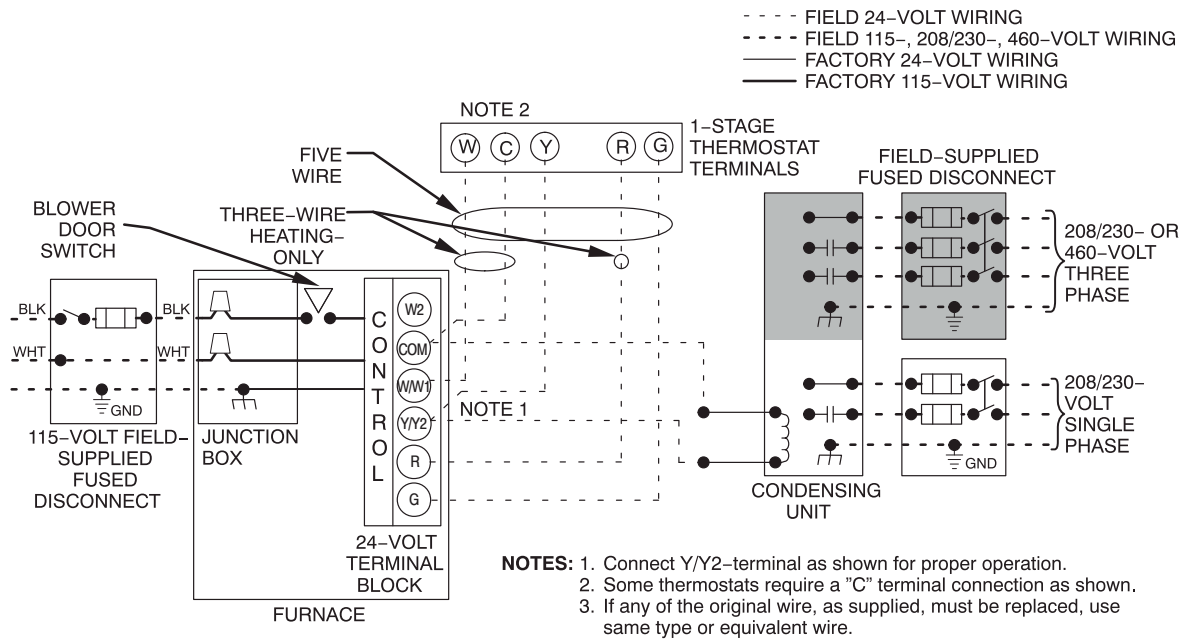

Fig. 34 - Typical Two-Stage Field Wiring Diagram
7. Connect field power and neutral leads to furnace power leads as shown in **Fig. 34**.
6. Connect power cord power and neutral leads to furnace power leads as shown in **Fig. 34**.
5. Connect field power and neutral leads to furnace power leads as shown in **Fig. 34**.
Make field 24-v connections at the 24-v terminal strip. See **Fig. 35**. Connect terminal Y/Y2 as shown in **Fig. 34** for proper cooling